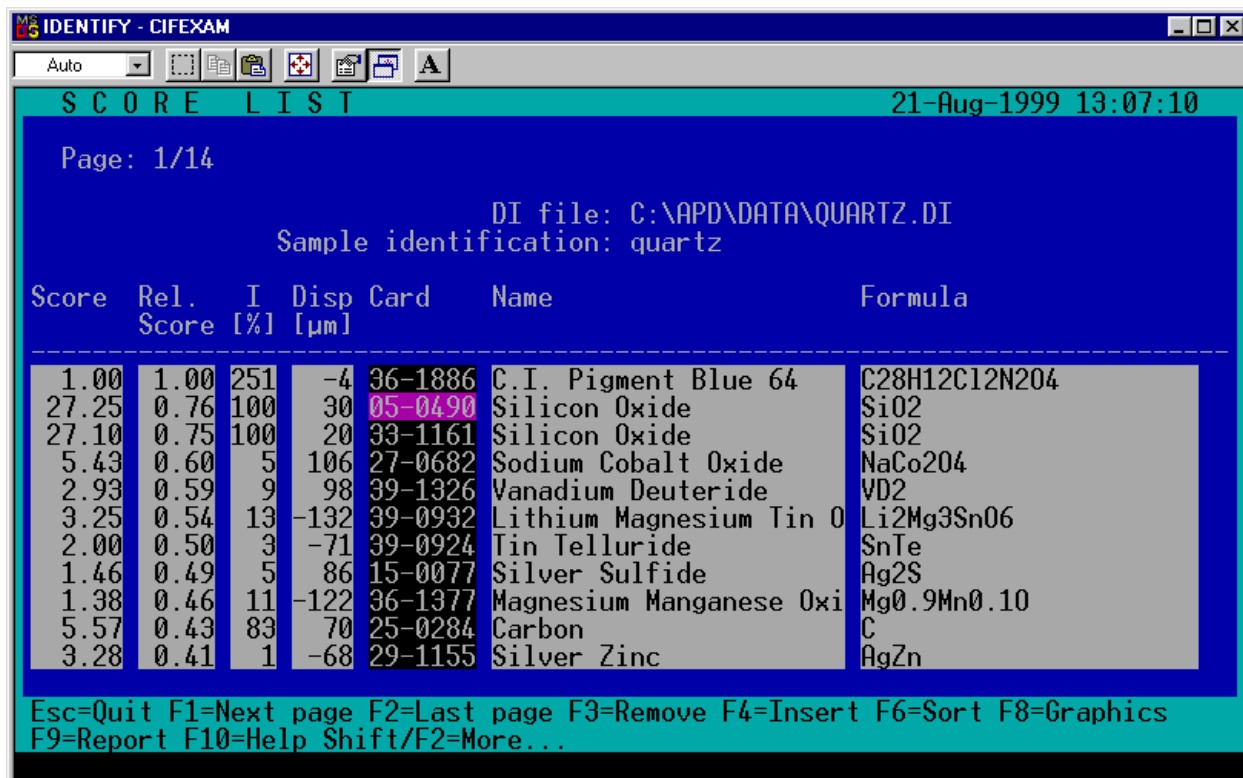

Figure 6
30. The entire ICDD/JCPDS database will now be searched. This will take a minute. Afterwards you will be prompted with a screen similar to the Figure 6.